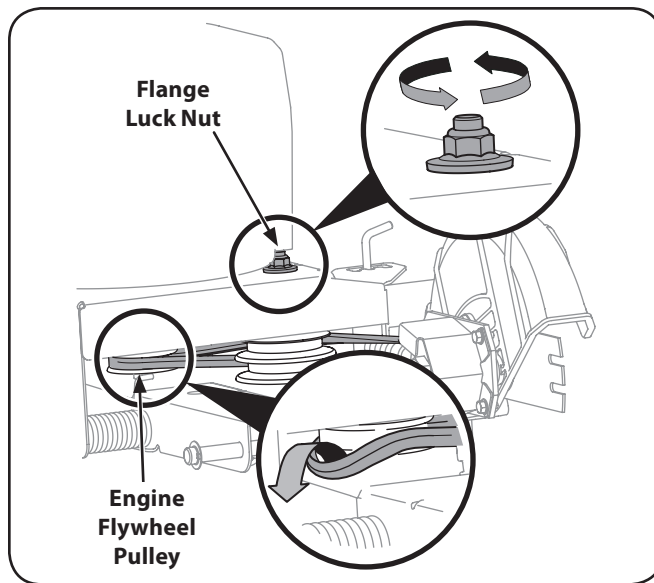

Figure 7-1
NOTE: To aid in reassembly, note the orientation of the drive belt on the two idler pulleys and the engine flywheel pulley prior to performing the following steps. See Fig. 7-1.
1. Working in front of the edger, loosen the flange lock nut on top of the frame, allowing the idler pulley assembly to pivot slightly out from the frame. See Fig. 7-1.
2. With your other hand, carefully reach under the rear of the edger and remove the belt from around the engine flywheel pulley. See Fig. 7-1.